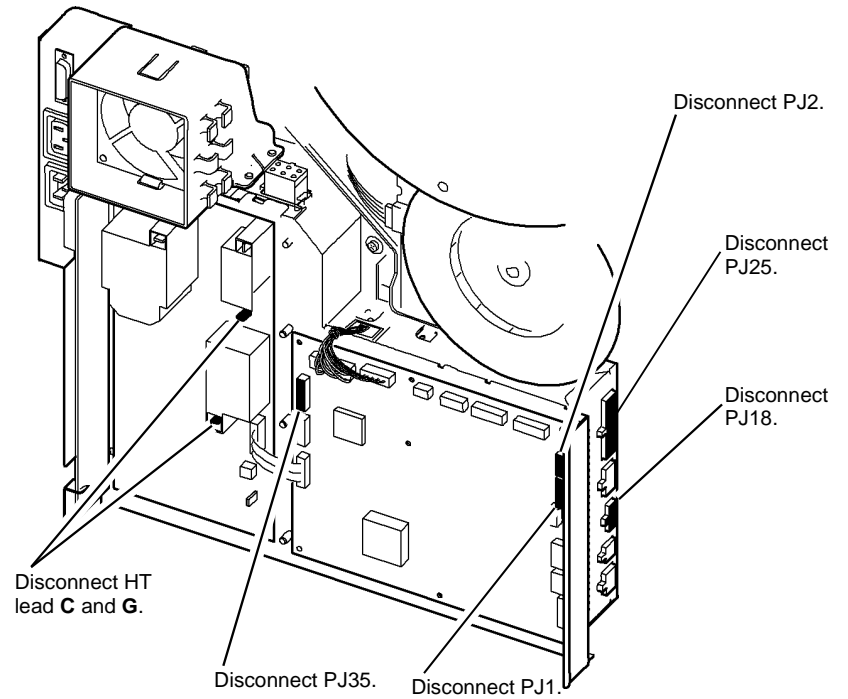
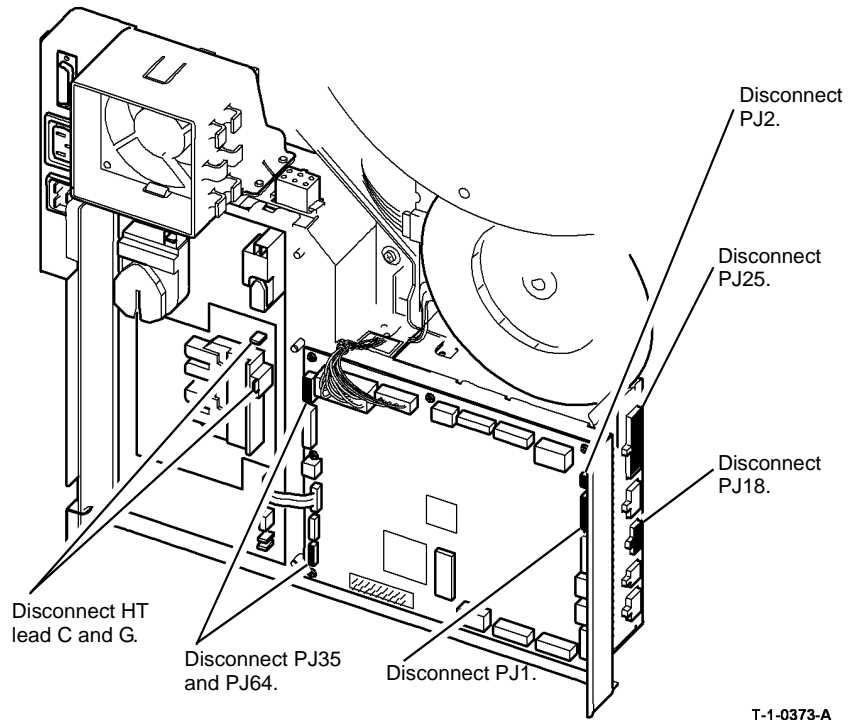

Figure 3 Power and control assembly
Figure 4 Power and control assembly
12. Disconnect PJs on the power and control assembly, (35 ppm) **Figure 3**, (40-55 ppm) **Figure 4**.